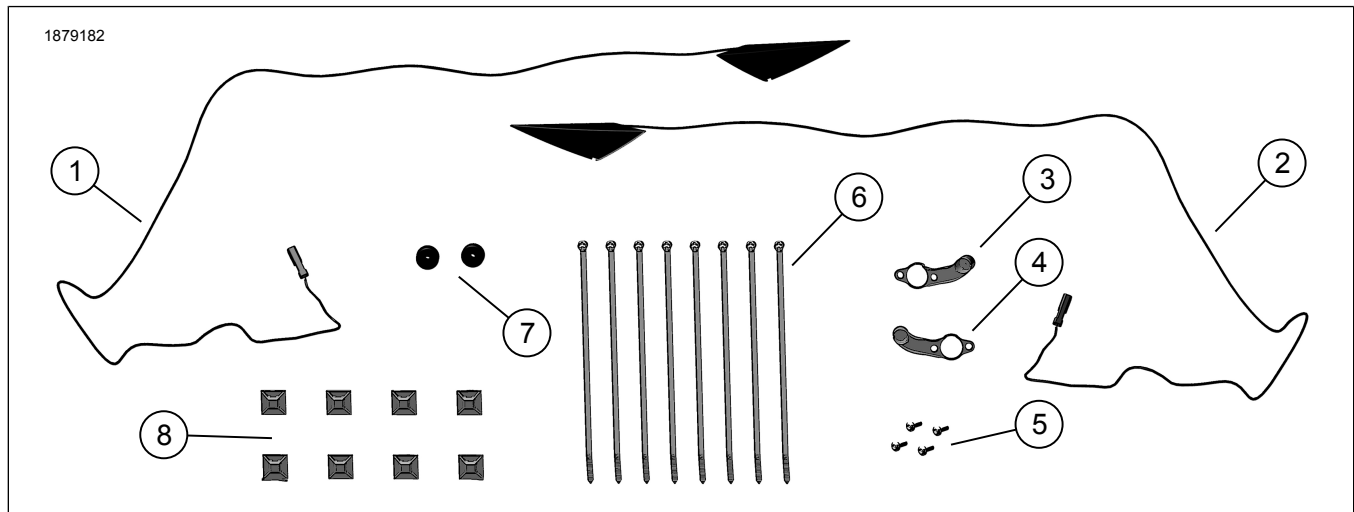
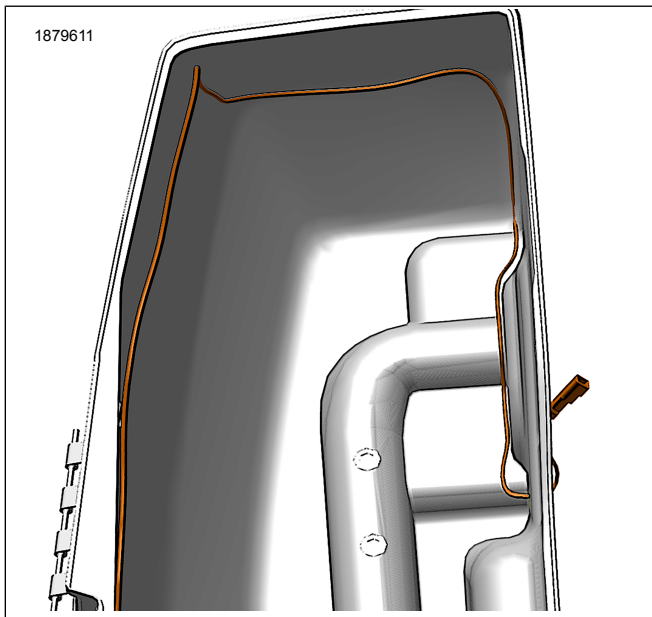

Figure 1. Kit Contents: Saddlebag LED Interior Light
Figure 7. Harness Routing
- 8. See Figure 1 and Figure 7. Route harness inside saddlebag, secure with cable straps (6) and anchors (8).